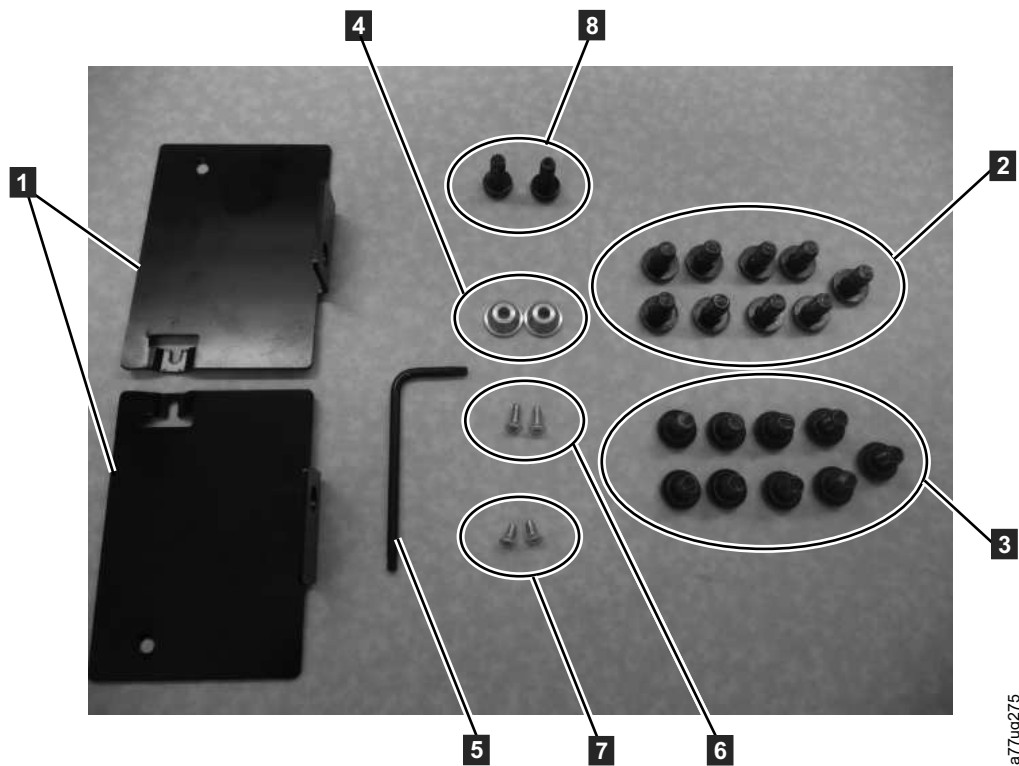

Figure 22. Rack Kit A mounting hardware
1. Verify which rack kit was included in your shipment. Although there are two different rack kits, the steps to install them are the same. After verifying the Rack Kit you received, see Figure 22 for the installation steps.
- 2 mounting brackets (**1** in Figure 22)
- 1 Torx wrench (**5** in Figure 22)